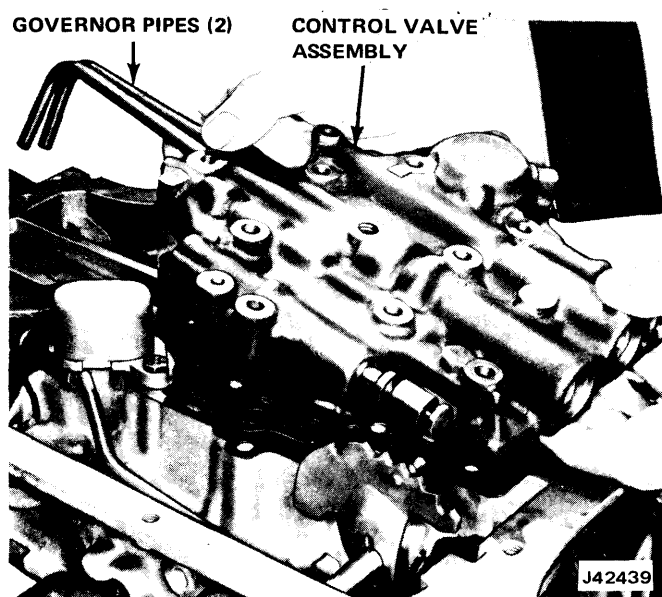

Fig. 7-10 Removing Control Valve and Governor Pipes
(3) Remove control valve attaching bolts and remove control valve and governor pipes (fig. 7-10).